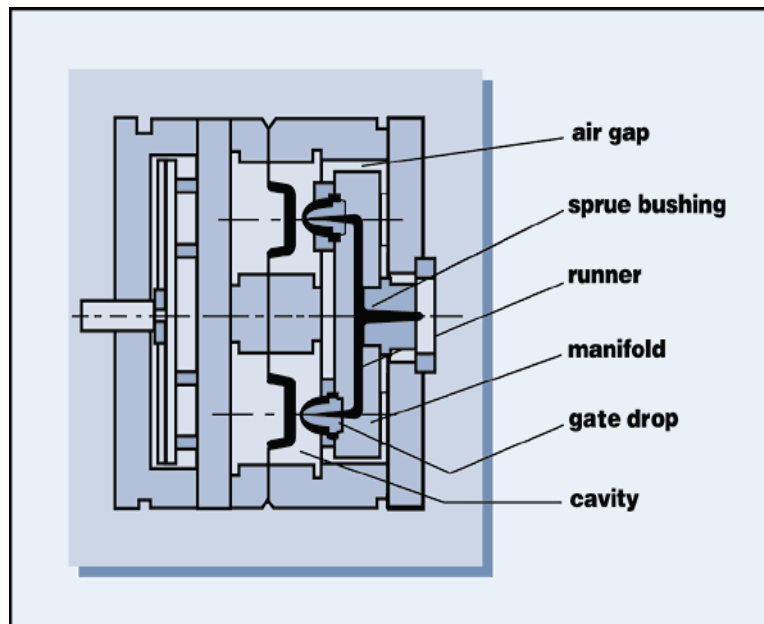

Figure 1: Cross section of basic hot runner system
1. [a] Figure 1 shows the cross section of a basic hot runner system. Explain the function of sprue bushing, runner, manifold, cavity and gate drop.